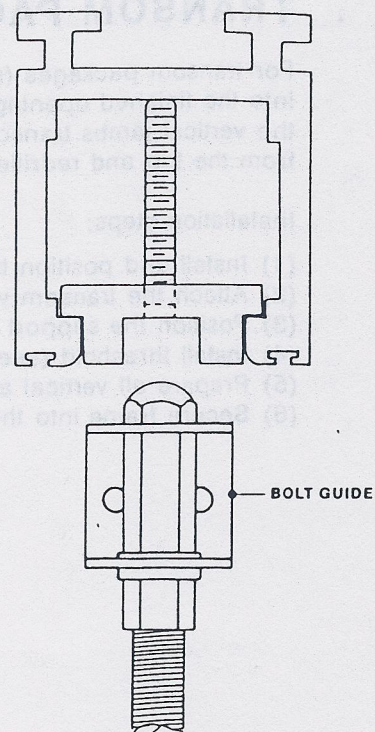

Fig. 52
If the active leaf is equipped with a maximum security locking device it should be checked for proper function. Single sliding applications are provided with a hook bolt deadlock (16) which secures into the vertical jamb. Biparting doors have a hook bolt deadlock with a second point (13) deadbolt (see fig. 52) which secures into a special bracket located in the upper door carrier. The second point dead bolt height can be adjusted by removing the bolt guide (located in the top vertical rail) and rotating the 3/8" hexagonal deadbolt up or down to the desired projection.